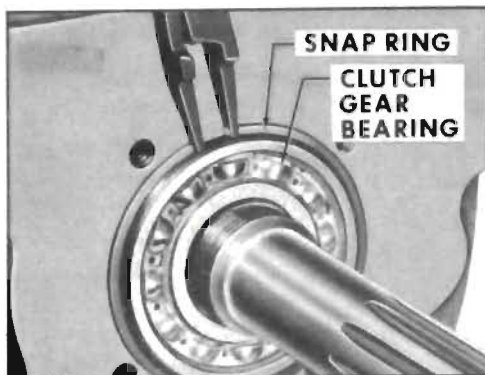

Figure 4-16—Clutch Gear Snap Ring Removal
8. Remove clutch gear bearing snap ring. See Figure 4-16.